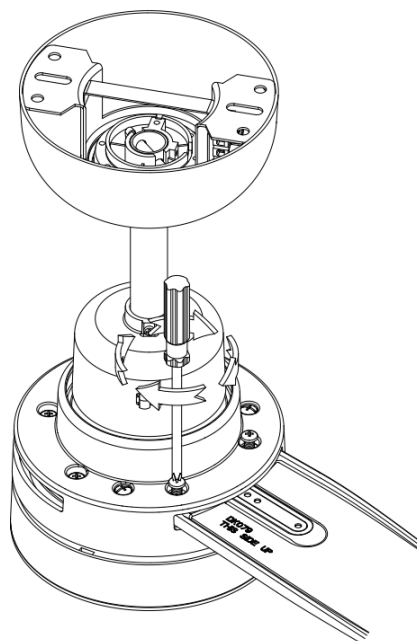

Fig. 5
1. Insert the blade into the slot of the rotating member of the fan motor assembly. Align the 2 holes on the blade with the 2 holes on the rotating member of fan motor assembly and using the 2 blade screws in step 1, to secure the blade to the fan motor assembly. (Fig. 5)